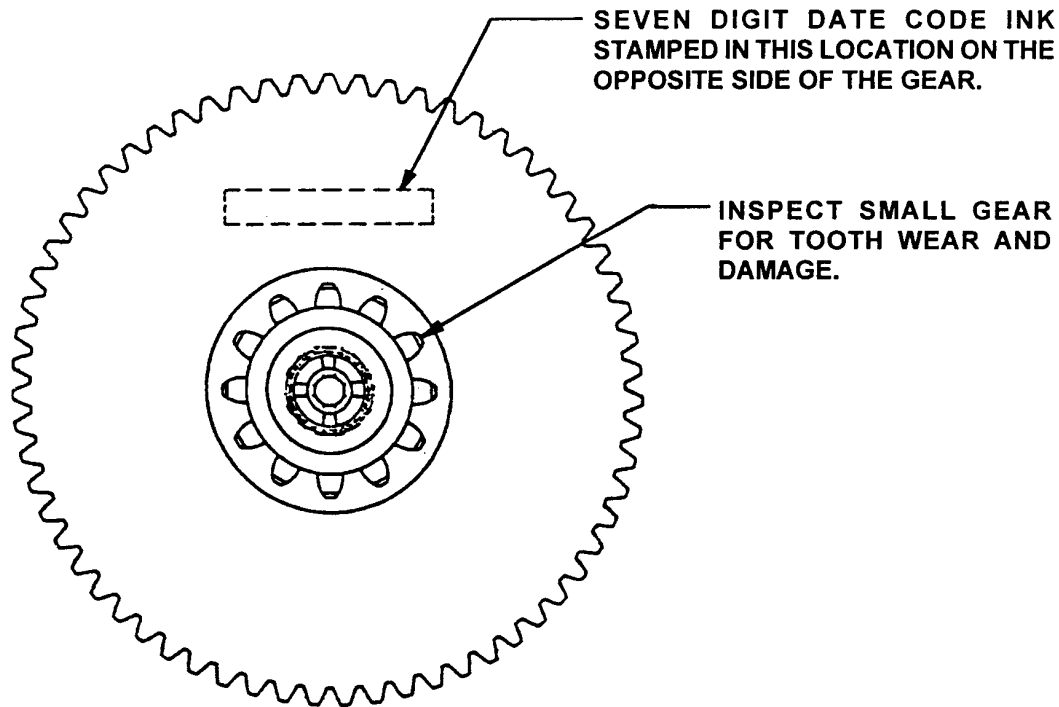

FIGURE 1. P/N 653575 GEAR AND CLUTCH ASSEMBLY
1. Inspect the rear side of the large gear (see Figure 1) and verify the seven digit date code number. Assemblies identified with the date codes listed in Table 1 or any assemblies that do not have a visible date code may contain improperly heat treated gears and must be returned to a TCM Distributor for replacement.
3. Reference Figure 1. Inspect the small gear for tooth wear or damage. If the gear teeth exhibit wear or damage, contact your local TCM Field Service Representative or TCM Factory Customer Service at (334) 438-3411 for additional instructions.